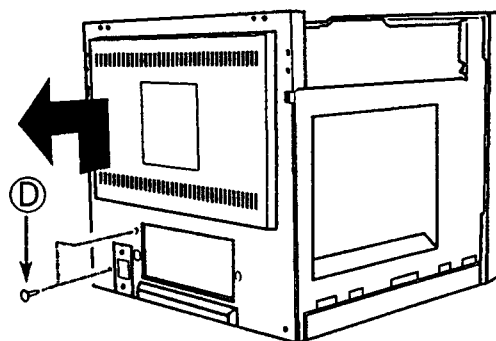

Fig. 2-1
- (1) Remove the two screws ④ in Fig. 2-1.
- (2) Pull the rear cover right upward until it stops as indicated by the arrow, and dismount the cover.